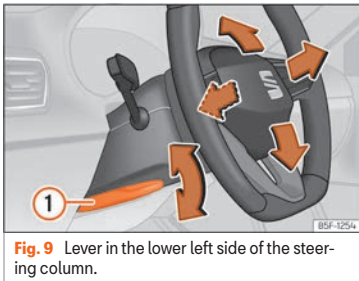

Fig. 9 Lever in the lower left side of the steering column.
- Pull the »» Fig. 9 ① lever down, move the steering wheel to the desired position and lift the lever back up until it locks.
- After adjusting the steering column, push the lever »» Fig. 9 ① firmly upwards to ensure the steering wheel does not accidentally change position while driving.